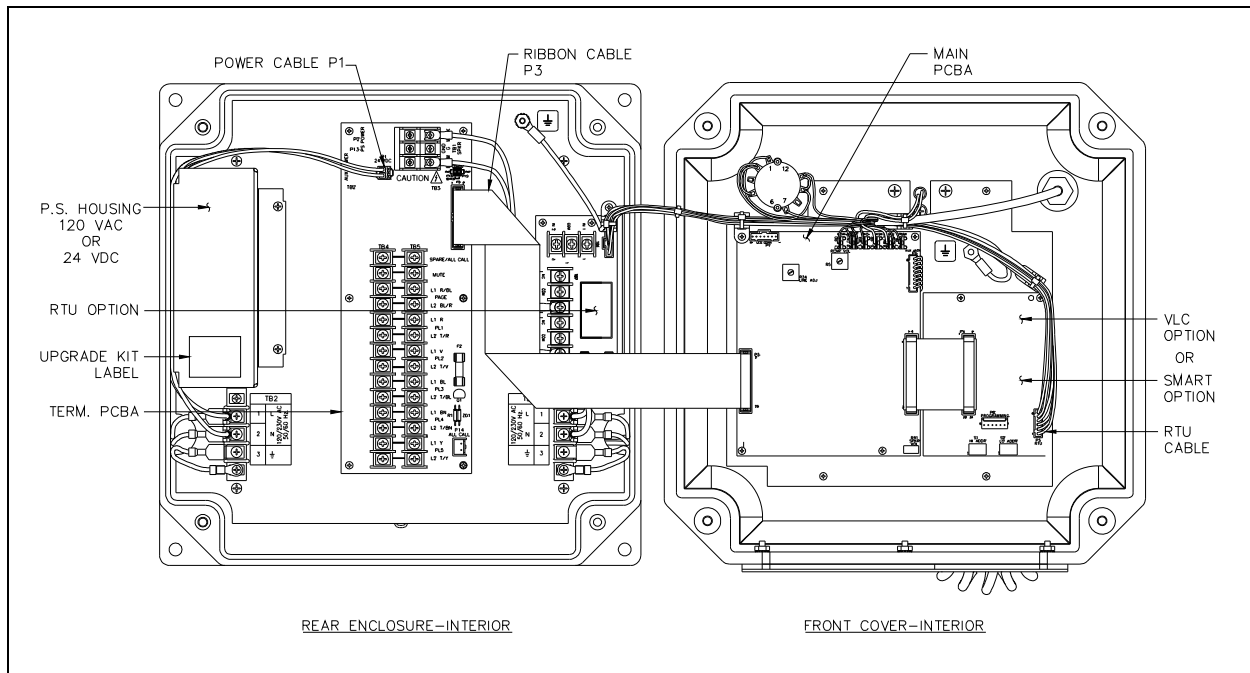

Figure 2. Upgraded ICS Hazardous Area Station – Interior View
5. Plug the power cables back into P1 and P2 (dc only) of the Termination PCBA. Refer to Figure 2 for the completed assembly configuration.
6. Place the upgrade kit label on the power supply housing as shown in Figure 2.